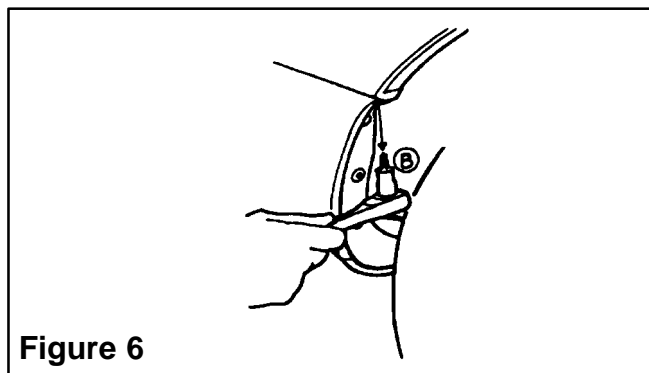

Figure 6
6. Check to make sure that the teeth on the antenna spacer grommet make good contact with the inner fender well (Fig. 6).
1. Remove bolt B, found at lower body panel, to fender well attachment intersection (See Figure 6).
2. Re-using bolt B, install the attachment adaptor bracket at point B (See Figures 6 and 7).